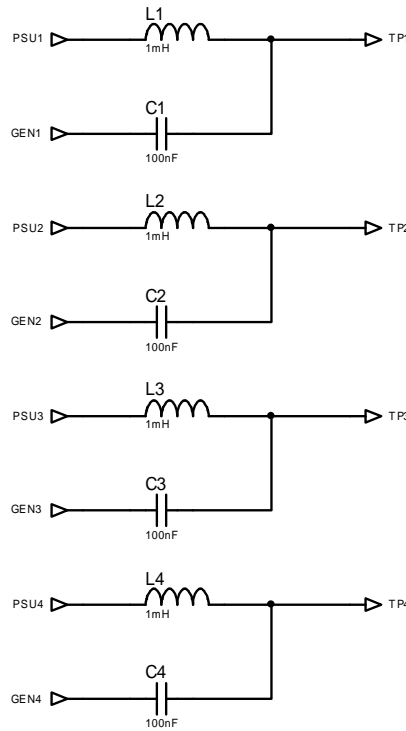

Figure 11: Power and Control Test Interface
- 2. Apply power and control to one or more of the test points TP1 to TP4 to control output channels STB1 to STB4 respectively, using suitable test hooks. A 0V common ground connection will be required between the power supplies and the ground plane of the board, normally using a crocodile clip. A suitable circuit for applying the power and control is shown in Figure 11. The DC supplies are provided at PSU1, etc. and generators to provide 22kHz control signals at GEN1, etc. Each output has controls for independently selecting one of the four inputs as in the following Truth Tables: